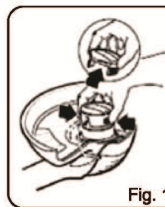

Fig. 1
- Press the release tabs on the line spool cover as shown in Fig. 1, and remove the cover by pulling it straight off. Remove the spool from the tool and remove and discard all line on the spool.